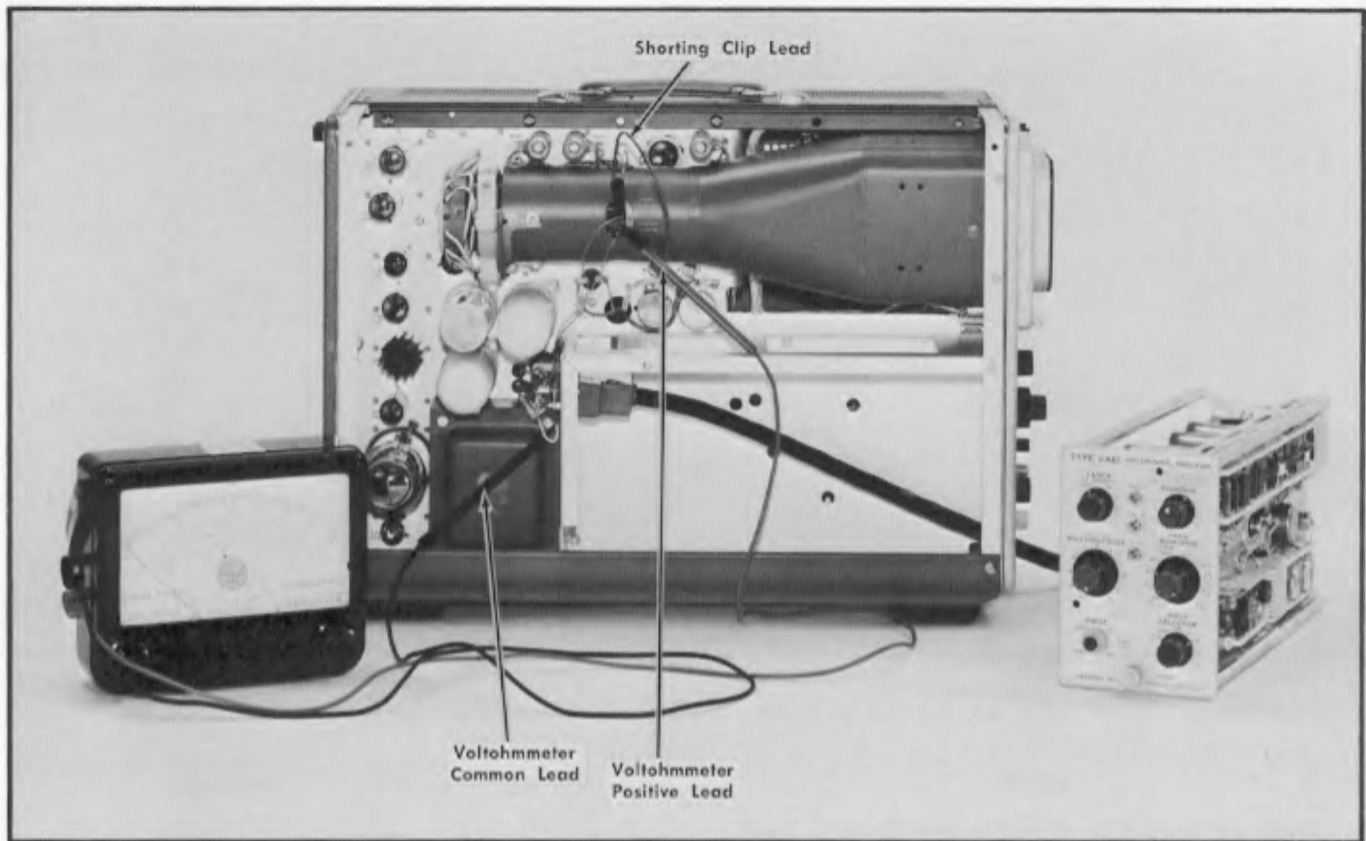

Fig. 6-4. Test equipment setup for step 1.
- a. Test equipment setup is shown in Fig. 6-4.